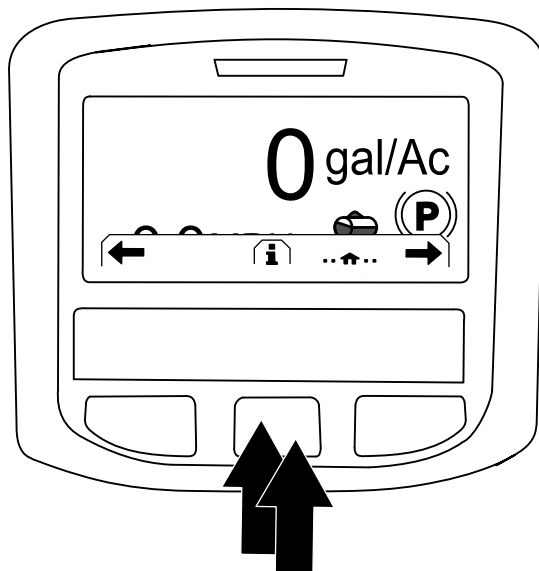

Figure 224
2. At the Home screen, press the center button on the InfoCenter to access the navigation screen (Figure 224).
3. Press the center button on the InfoCenter to access the Main Menu (Figure 224).